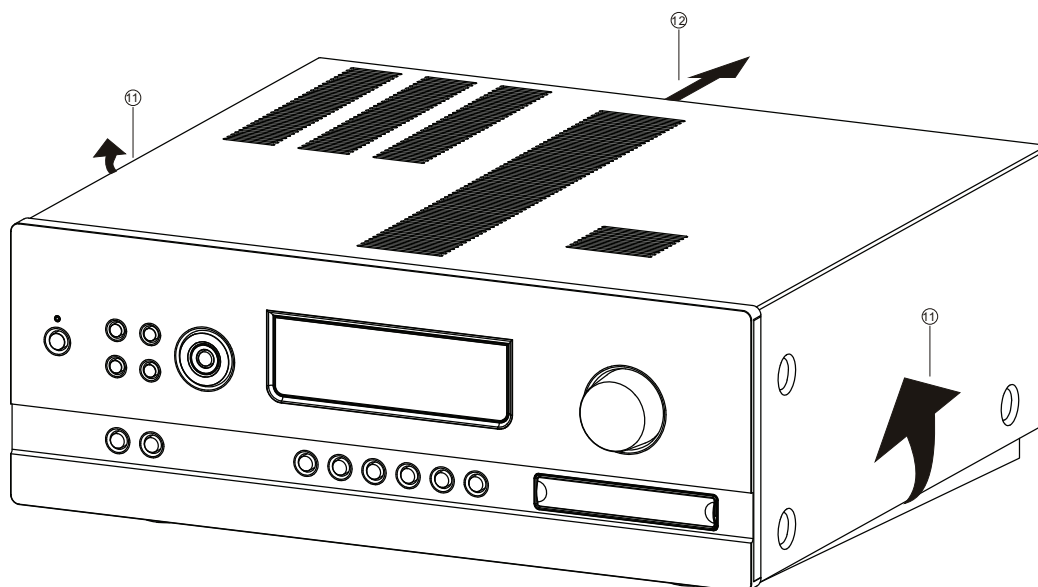

Figure No. 2
2. Pull both sides of the TOP COVER slightly outwards 11 and tilt approx. 35° and then remove in the direction as indicated by the arrow 12. Refer to **Figure No. 2**.